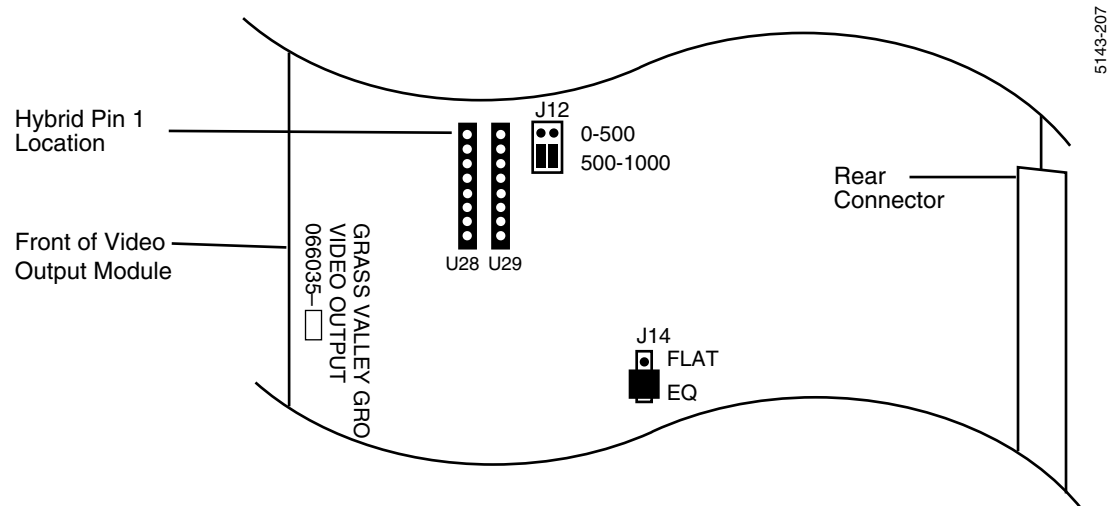

Figure 2-45. Video Output Hybrid Pin Orientation
3. Install the Hybrid(s) appropriate to the Video I/O module and cable type. (See the tables and figures in previous text for correct Hybrid location and Hybrid part number.) Note that the Hybrid board is installed with Pin 1 toward the top of the module as illustrated in Figure 2-45.